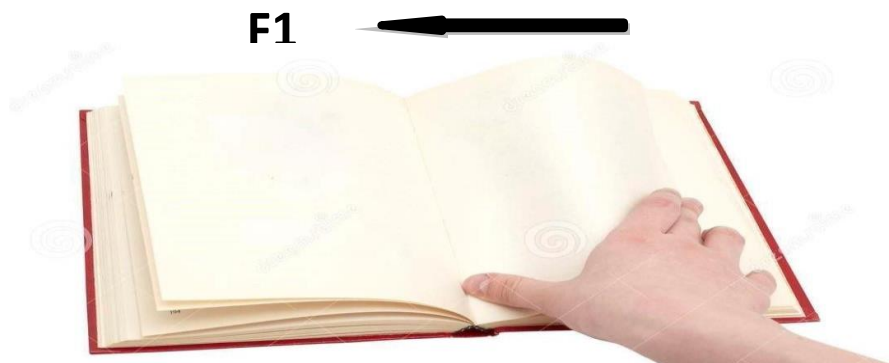

Fig 1.1: Frictional Force F_1
1. The force of friction that acts when the reader slides one page over the next in order to give it a vertical elevation, so that it can be turned to the other side, as shown in figure 1.1. This force is represented by F_1 here.